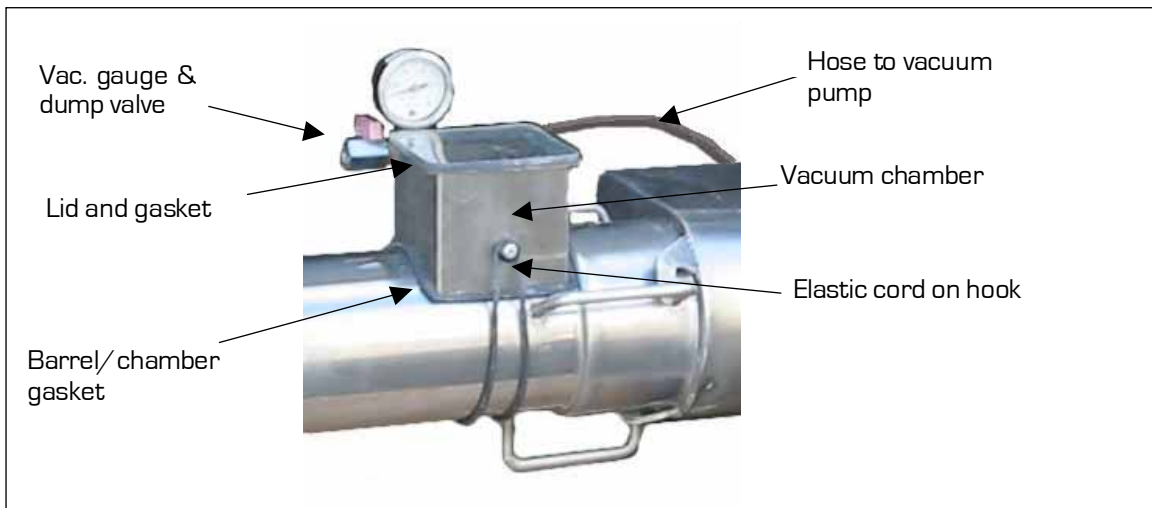

Figure 6: The vacuum chamber fitted to the barrel.
- 3) The vacuum chamber must be positioned to completely cover the de-airing slot in the barrel. To achieve this, one edge of the chamber should be positioned against the barrel ridge adjacent to the slot. See figure 6.